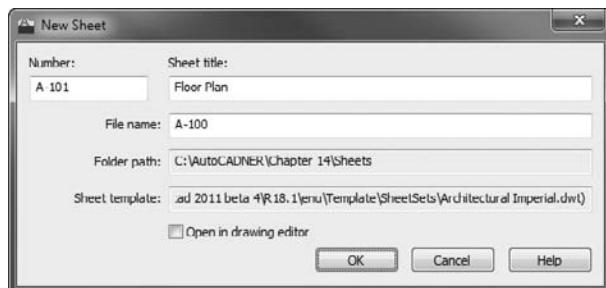

FIGURE 14.42 Entering the Sheet Number, Sheet Title, and File Name using the New Sheet dialog box
The New Sheet dialog box shown in Figure 14.42 will then open, where you will enter some basic information about the drawing you're about to create. This information will include the sheet number, sheet title, and drawing filename.
2. Enter A-101 in the Number text box and enter Floor Plan for the Sheet Title. By default, the filename is automatically generated by combining what you enter for the Number and Sheet Title. To change this, click into the text box and enter A-100. When you're done, the New Sheet dialog box should look like Figure 14.42; click OK to create the new drawing.
4. Right-click on the Architectural group and select New Sheet. Notice the layout name and drawing path for the Sheet Template. The Sheet Template path differs from the one you saw in Figure 14.42.